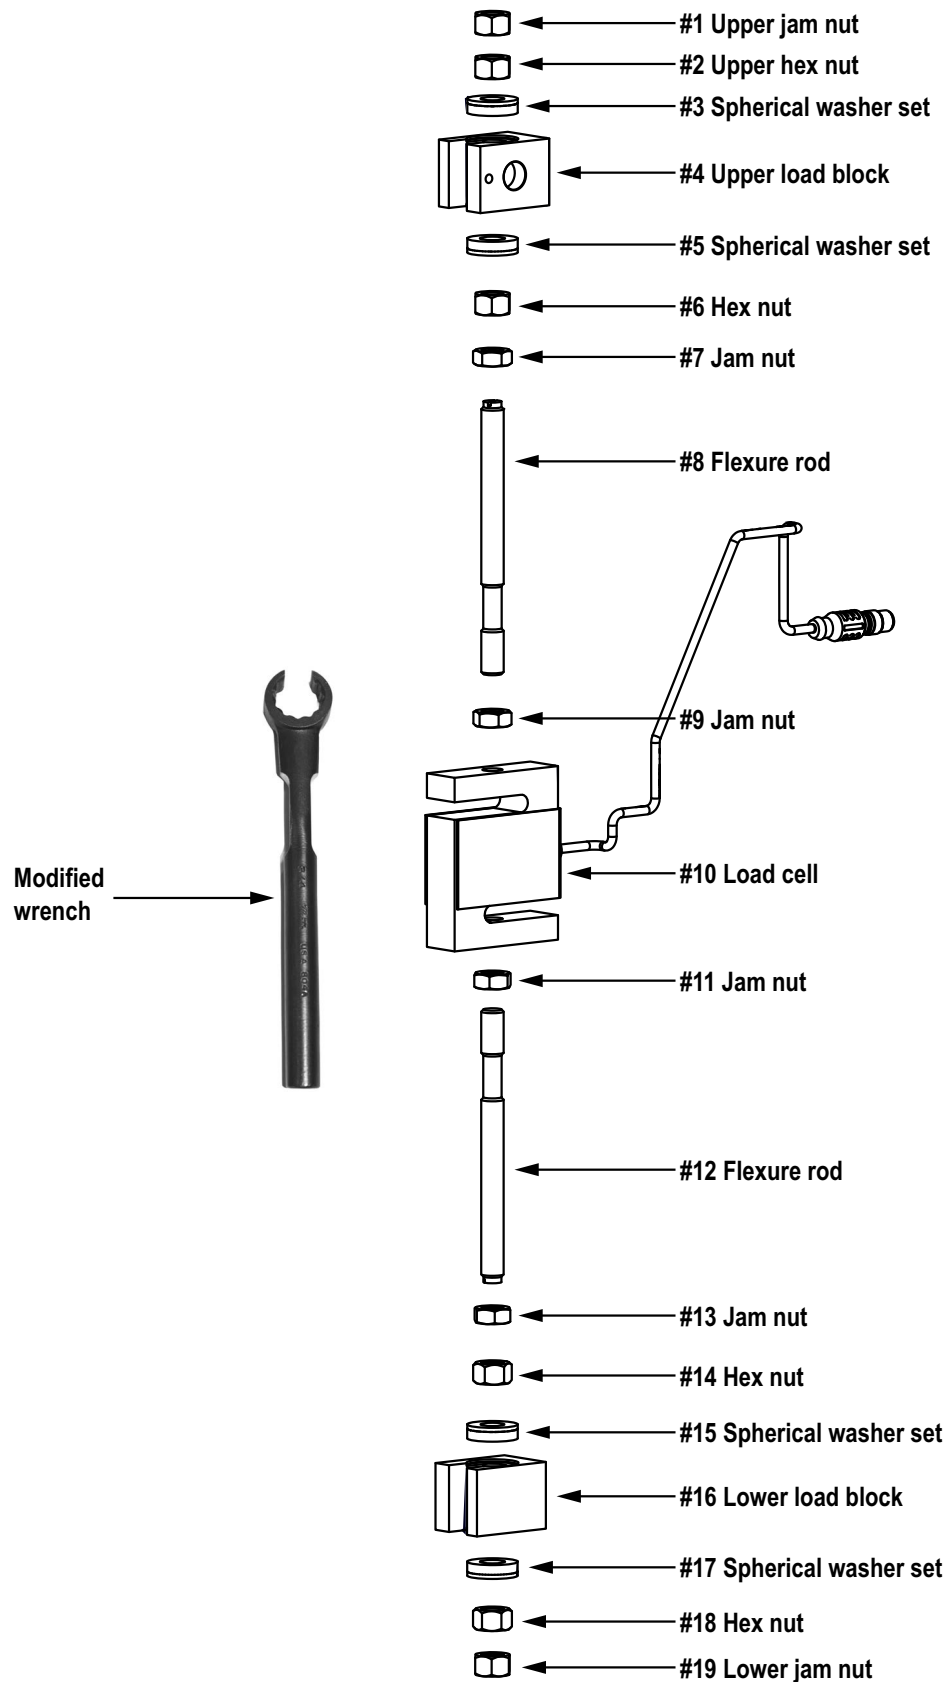

Figure 7-3. Load Cell Assembly Reference Parts
9. See Figure 7-3 on page 21 for remaining steps and proceed to Step 10.
1. Assemble the replacement load cell kit as shown in Figure 7-3.